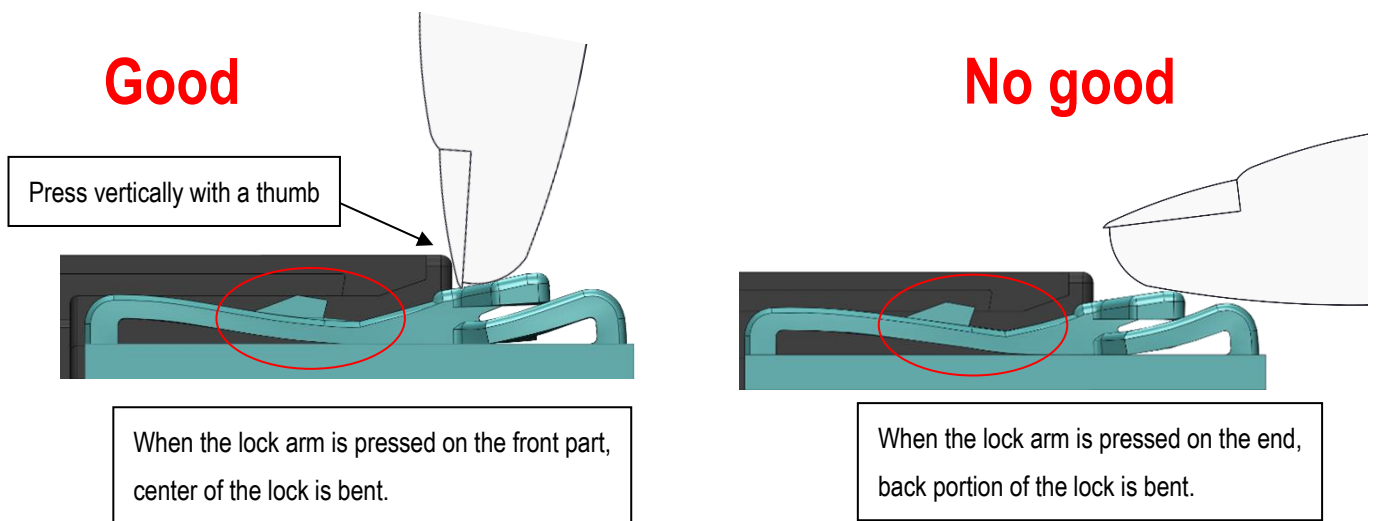

Fig40. Mechanism of the lock
- ④ Pressing down the front of the arm may not release the lock fully (see Fig. 40)